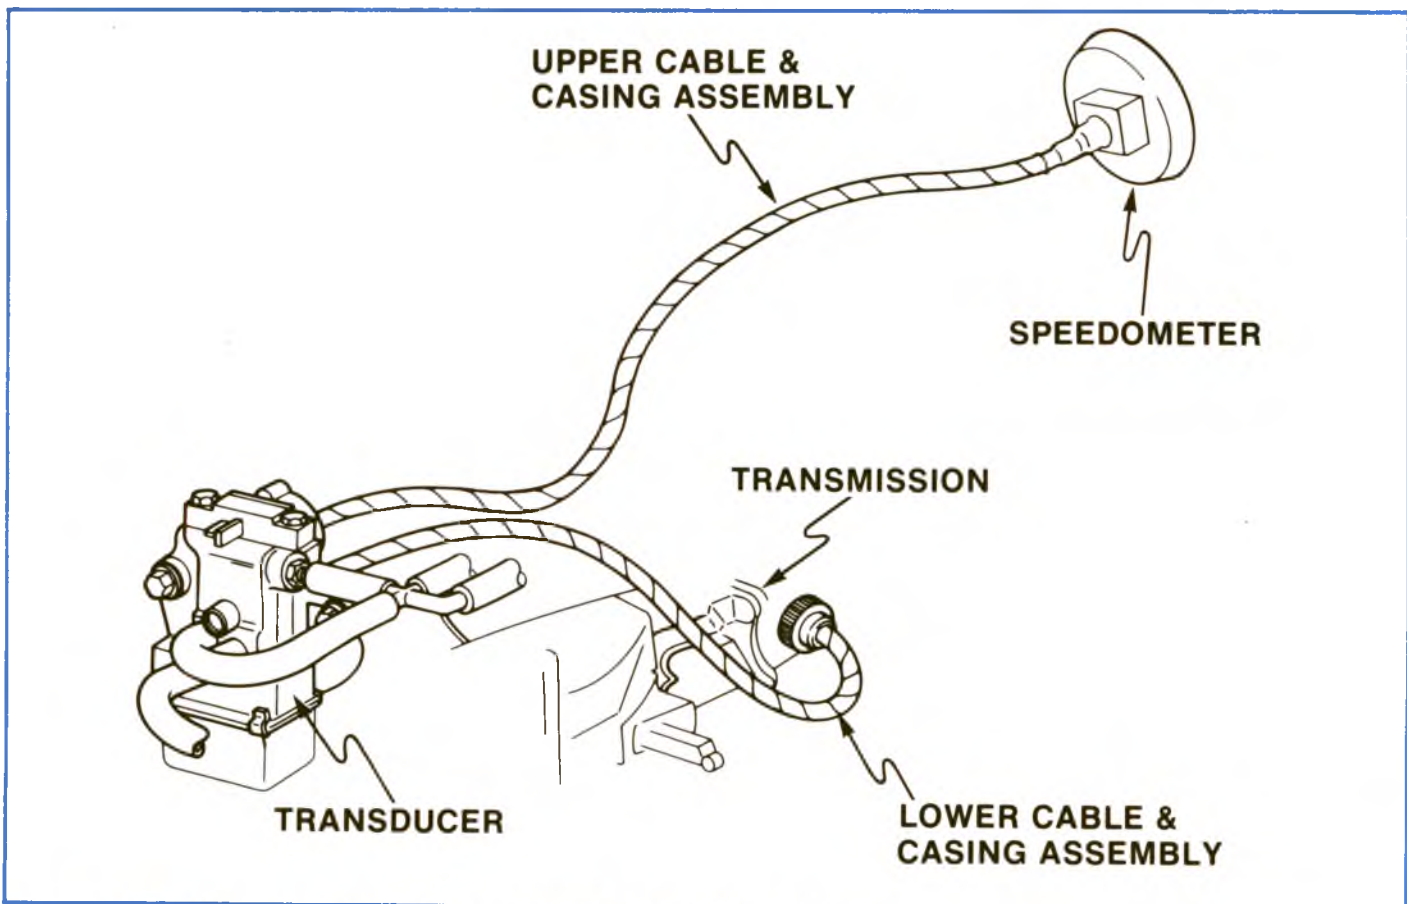

Figure 1-10, Upper and Lower Cable and Casing Assemblies.
6. Upper and Lower Cable and Casing Assemblies (figure 1-10) . . .